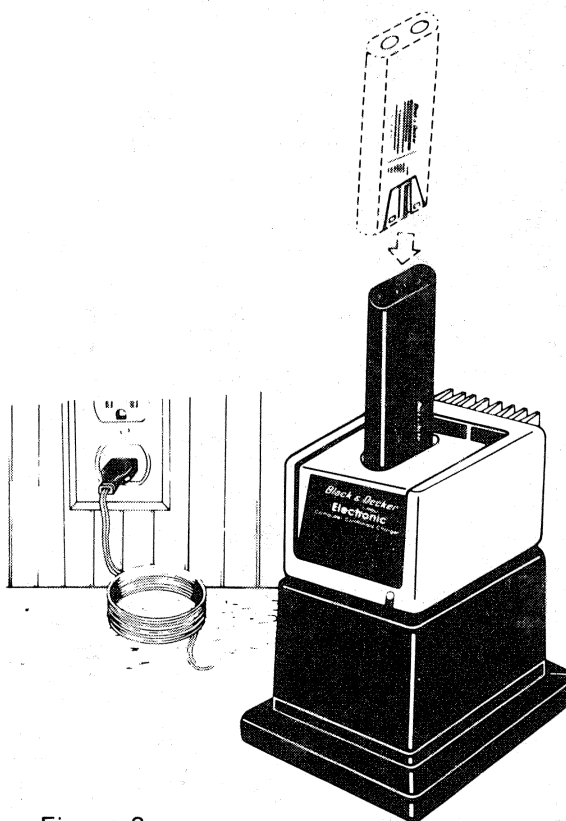

Figure 3
2. Place the Power Pack in the Charger as shown in Figure 3. Note that the groove in the Power Pack should be oriented to match key in charger.